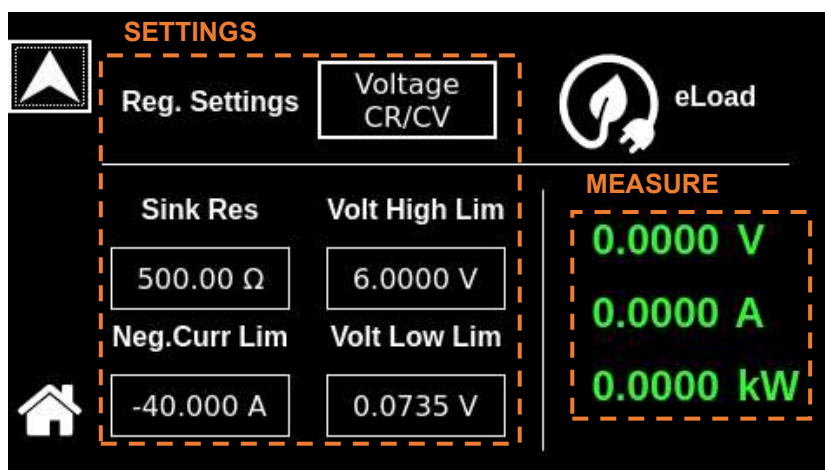

**Figure 10-9. Dashboard Screen in CR/CV Regulation setting**
a) **Voltage – CR/CV** is shown in Figure 10-9,